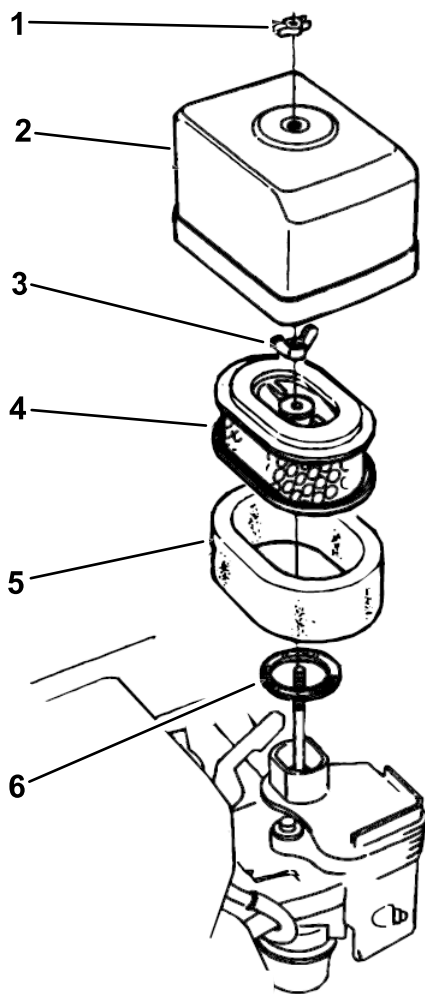

Figure 19
4. Remove the foam filter from the paper filter (Figure 19).